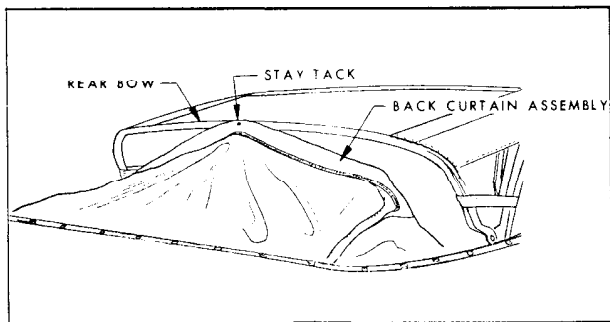

Fig. 17-137 Stay Tacking Back Curtain
16. Secure back curtain assembly with one tack to rear bow to prevent damage to plastic sheet. (Fig. 17-137)